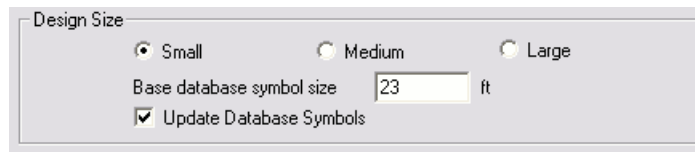

Figure 4-59
3. Go to the **Misc.** tab and select the Medium design size as in Figure 4-59. Change the "**Base Database Symbol Size**" to **23 (7)**. This determines the size of the symbols according to the size of the design. Enter your name in the "**Designer**" field. When you are finished click **[OK]**.